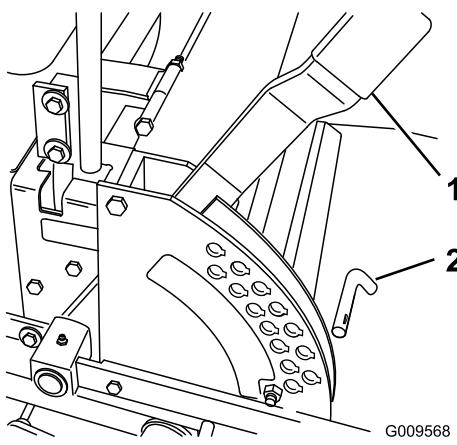

Figure 19
1. Raise the height-of-cut lever to the TRANSPORT position (also the 127 mm (5 inch) cutting-height position) (Figure 19).
2. To adjust, remove the pin from the height-of-cut bracket (Figure 19).
3. Select a hole in the height-of-cut bracket corresponding to the height of cut desired and, insert the pin (Figure 19).